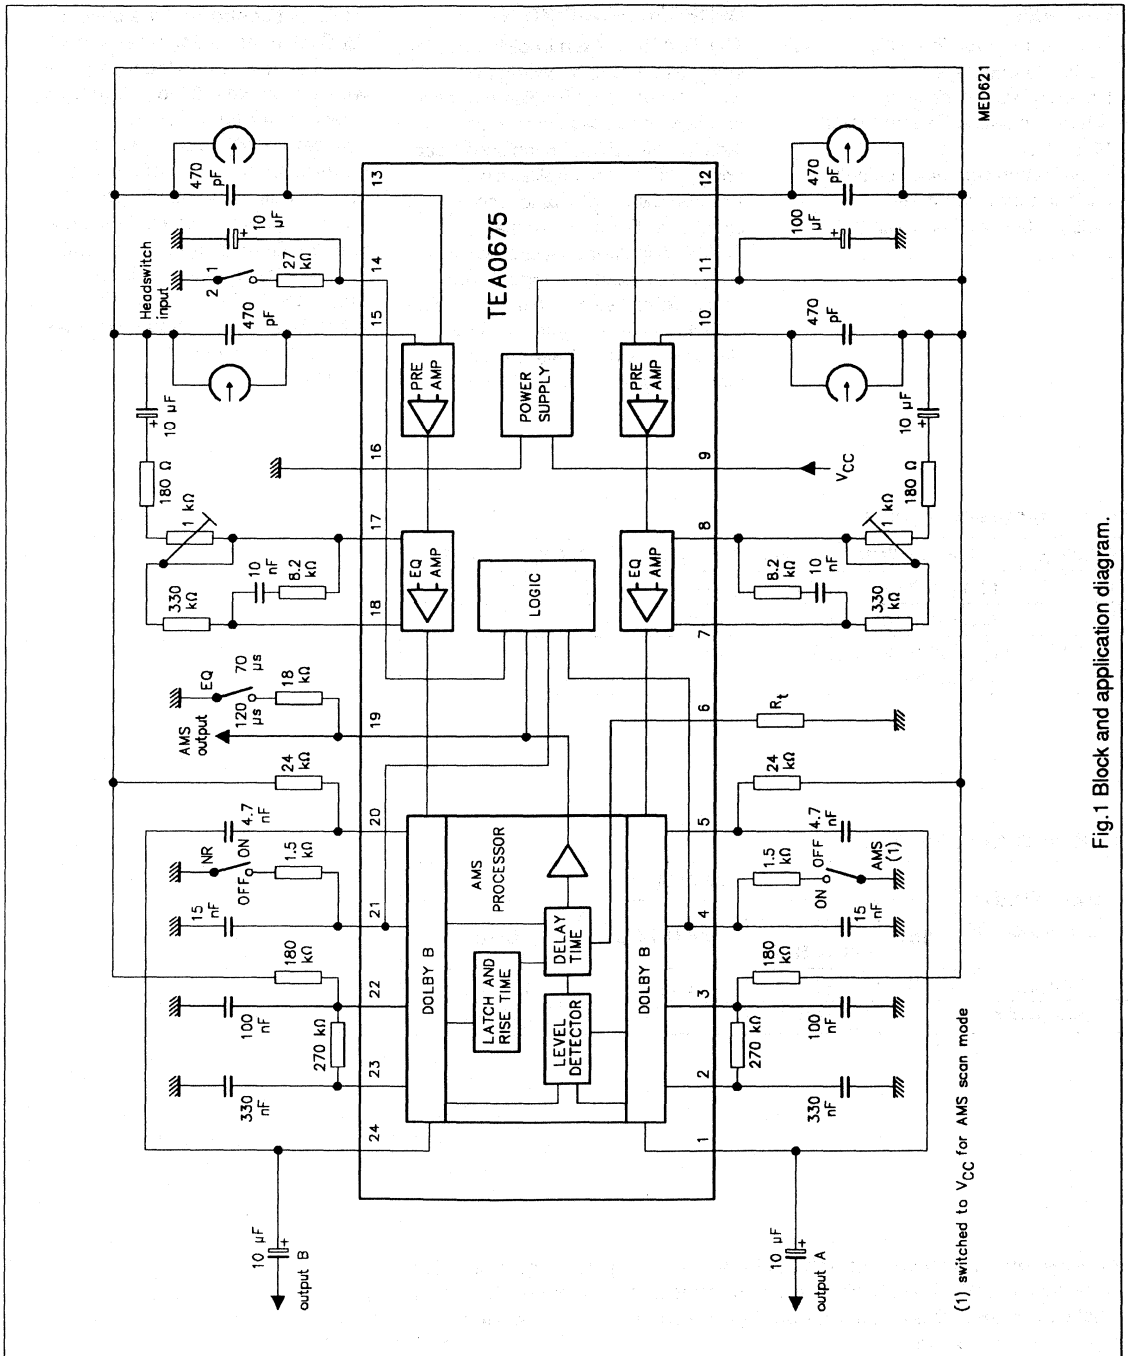

Fig.1 Block and application diagram.
Time constant switching for equalization is achieved when pin 19 (AMSEQ) is connected to GND via an 18 k Ω resistor (120 μ s), or open-circuit (70 μ s). This does not affect the AMS output signal during AMS mode (see Fig.1).
V_{CC} = 10 V; f = 20 Hz to 20 kHz; T_{amb} = +25 °C; all levels are referenced to 387.5 mV RMS (0 dB) at test point (TP) pin (OUTA) or (OUTB); test circuit Fig.1; NR ON/AMS OFF; EQ switch in the 70 μs position; unless otherwise specified.